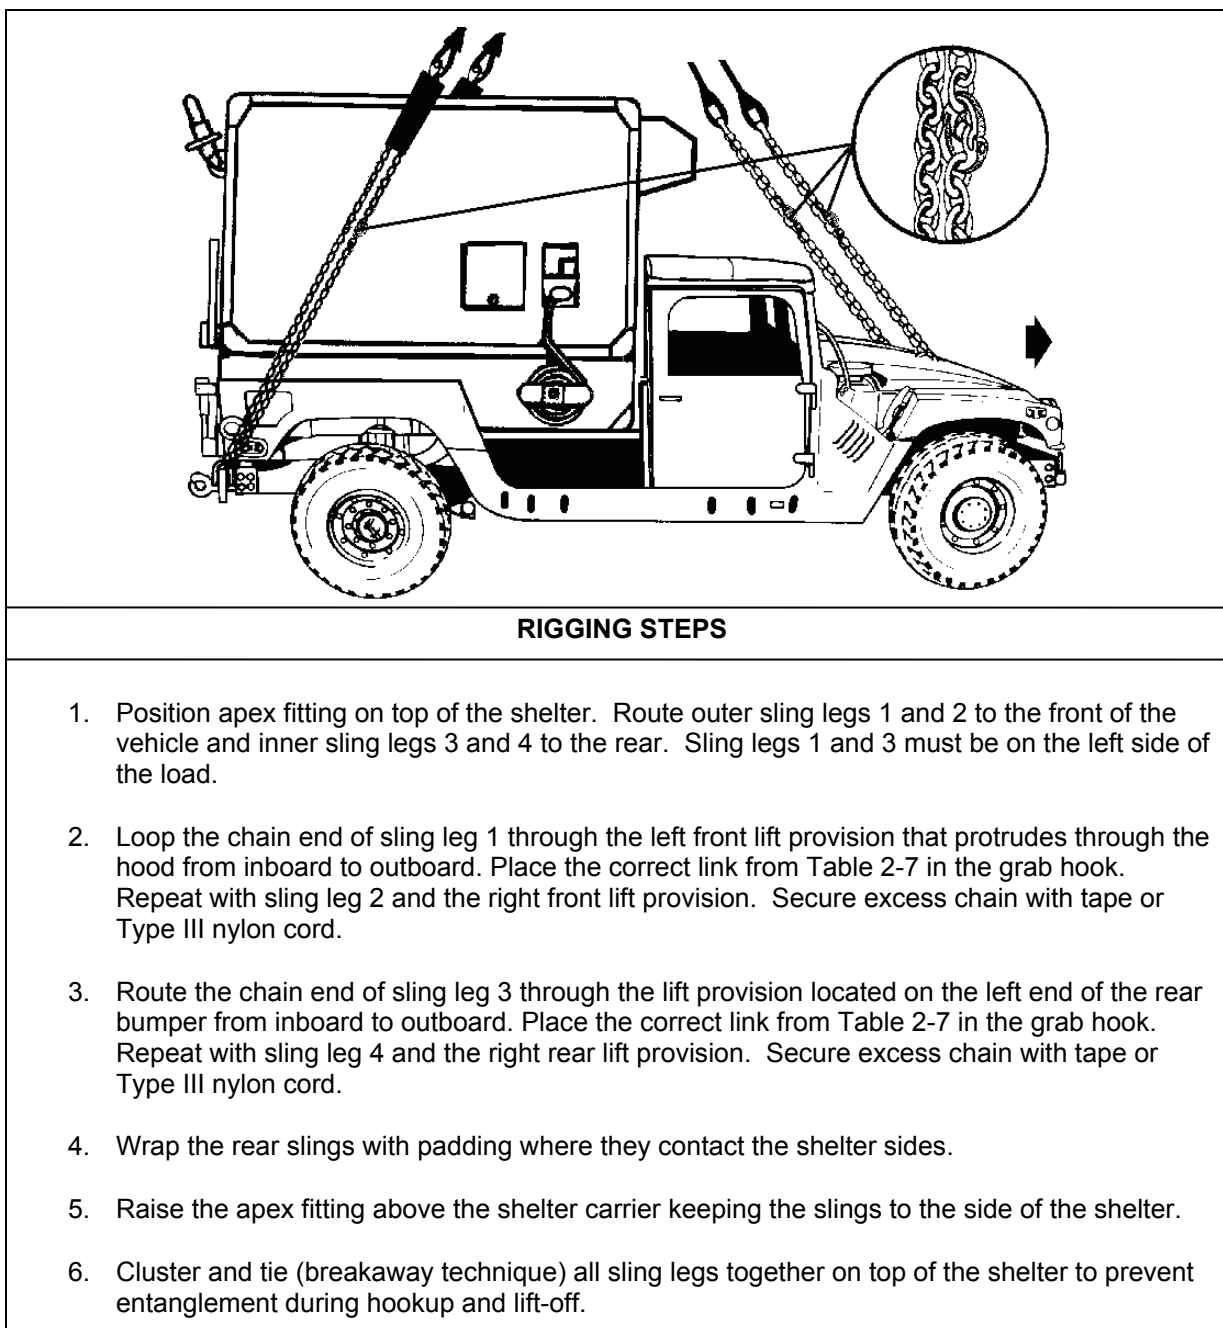

Figure 2-7. Downsized Direct Support Section Mounted on the M1037
- **Rigging.** Rig the load according to the steps in Figure 2-7.